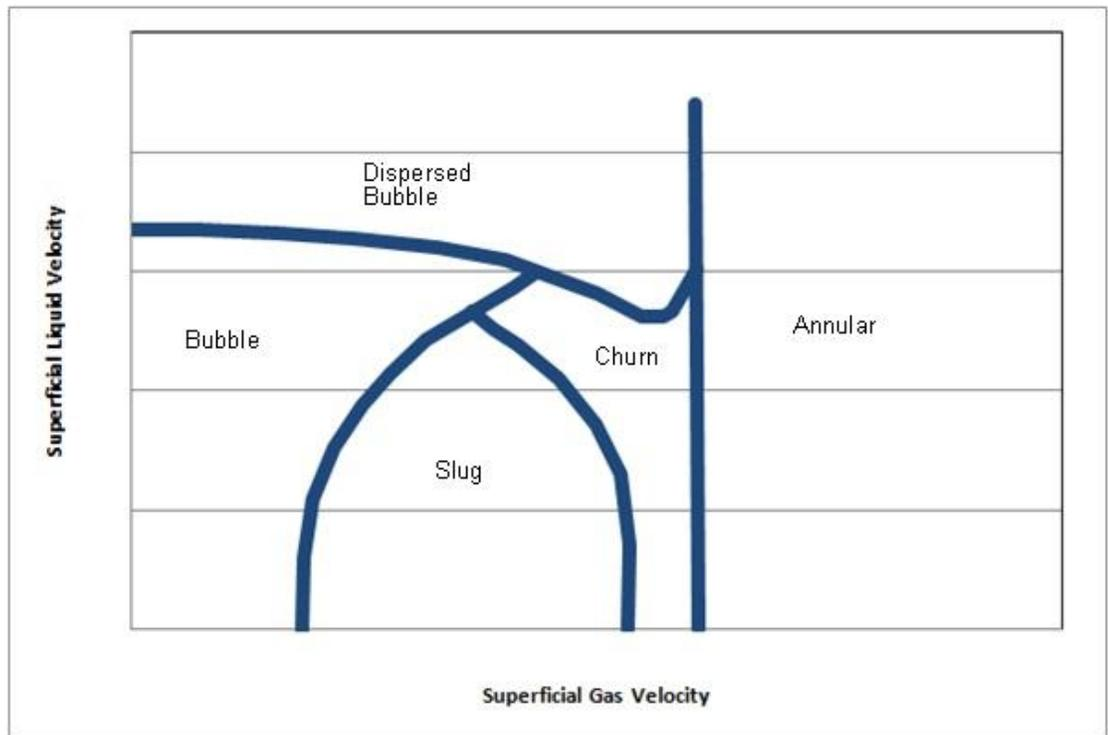

Figure 2. Generic flow regime map².
- The multi-phase flow regime under a given operating window (see Figure 2)